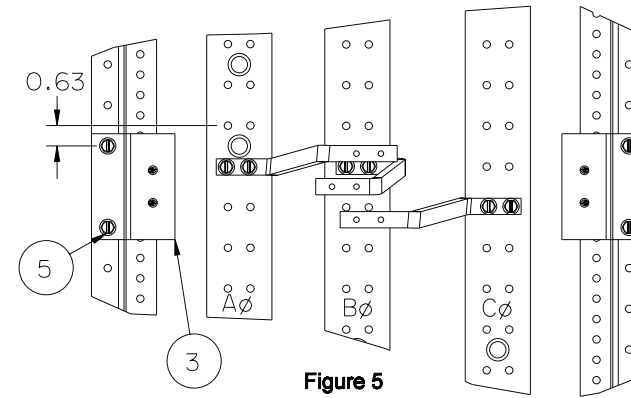

Figure 5
6. Reference fig. 5 - Assembling the mounting bracket. Locate a 0.228" diameter hole in the left z-rail 5/8" below the top of the empty unit space selected. Insert two 1/4-20 X 5/8" screws (item 5) through the ø0.312 hole in a mounting bracket (item 3) and into the selected hole in the z-rail (orienting the barrier as shown) and tighten. Repeat this step for the second mounting bracket. Torque all hardware as specified on the rear of the deadfront.